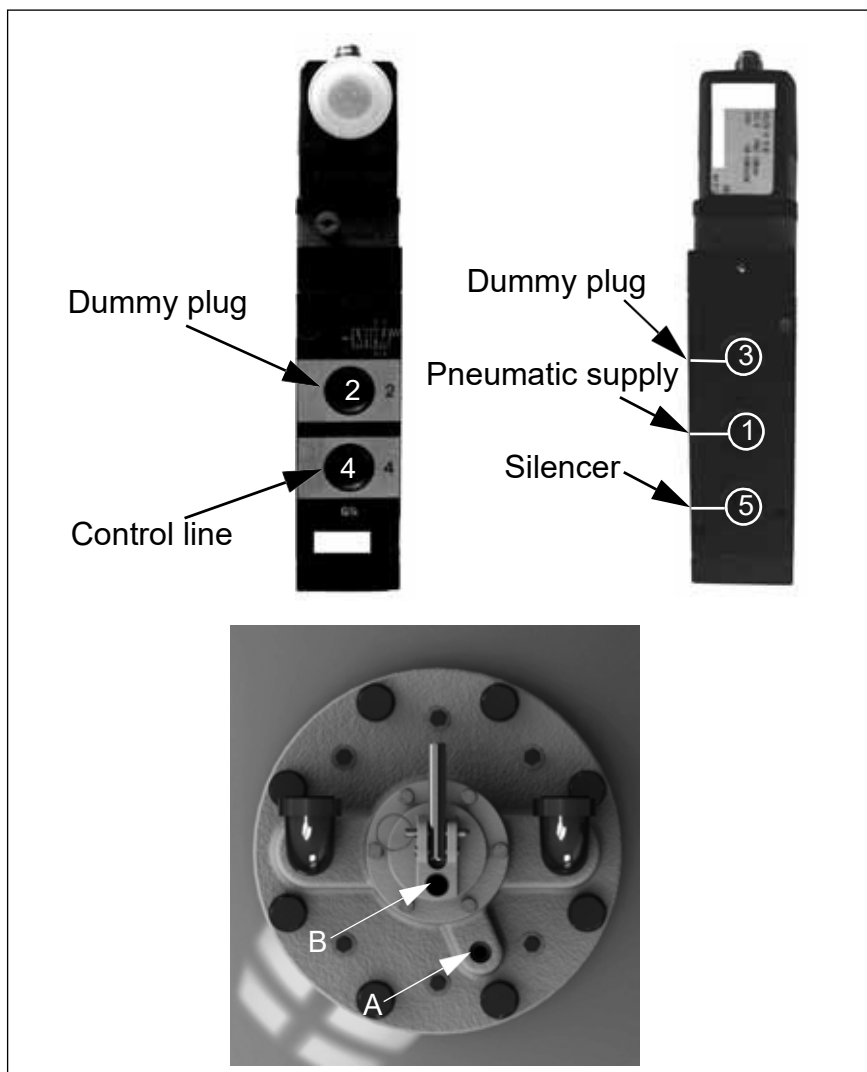

Fig. 5: Pneumatic connection of the 5/2-way solenoid
4. Seal the connections (2 and 3, Fig. 5) with dummy plugs.